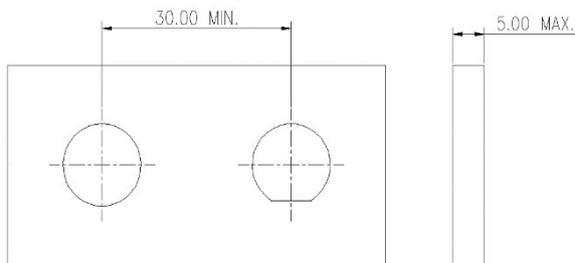

Figure 14
- ✧ 请确保墙板的厚度最大不超过 5mm, 无论水平或垂直结构，钻孔间隙至少要有 30mm (如图 14)。
Please ensure the thickness of housing wall not more than 5 mm, for both horizontal and vertical mounting, the space of drilled hole is recommended at least 30 mm (Fig.14).